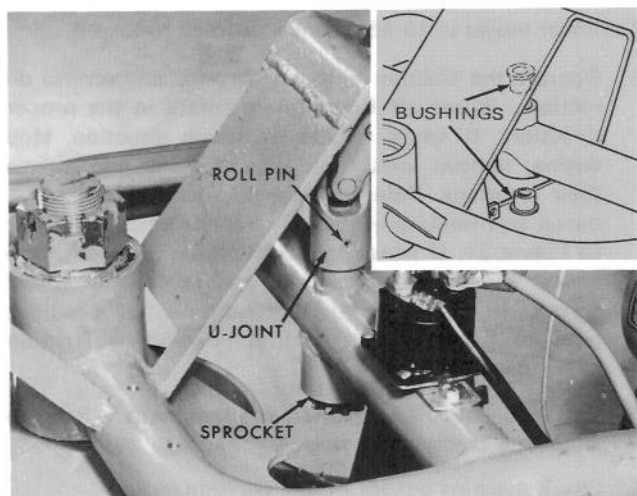

Figure 36
5. Remove the fasteners and lift the front shroud and dash assembly to expose the U-joint (Fig. 36). To completely remove the shroud, tag and disconnect the
6. To remove the sprocket, drive out the roll pin (Fig. 36). Remove the sprocket and shaft assembly from the bottom.
7. Insert the new sprocket assembly from the bottom. Check the condition of the bushings in the housing by moving the new shaft back and forth. If there is excessive play, the old bushings must be removed and new ones installed (Fig. 36).
11. Swing the U-joint back into position, install the new shaft and sprocket. Line up the holes with a drift pin and drive in the roll pin (Fig. 36).